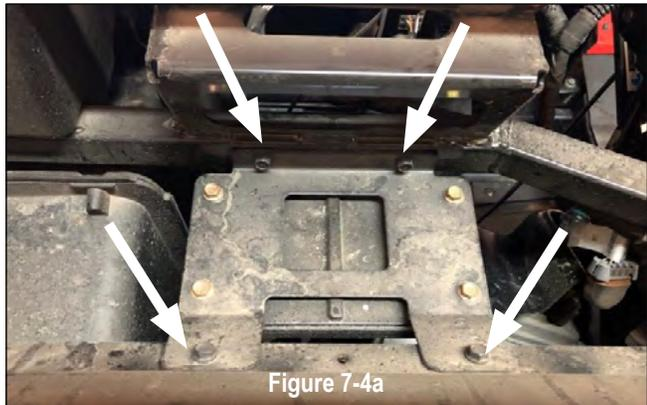

Figure 7-4a
If no Ride Command, Dynamix ECU or OEM installed amplifier are present, proceed to removing lower pocket. If you have the Dynamix ECU or OEM installed amplifier, remove (4) 10mm bolts holding the bracket as shown in Figure 7-4a. Move the ECU and/or OEM amplifier to the side leaving wire connections intact. Lower pocket removal is (1) T40 screw on the pocket support bracket as shown in Figure 7-4b.